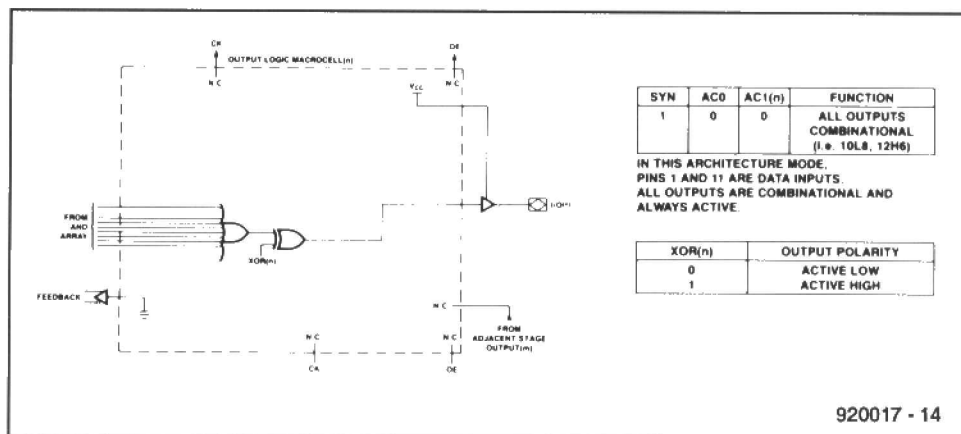

Fig. 4. Dedicated combinational output.
*Normal output*—SYN=1; AC0=0; AC1(n)=0 (Fig. 4).
The five valid macro cell configurations are shown in Fig. 4–8. In all cases, the eight XOR(n) bits individually determine each output's polarity. The truth table associated with each figure shows the bit values of the SYN, AC0 and AC1(n) that set the macro cell to the configuration shown.